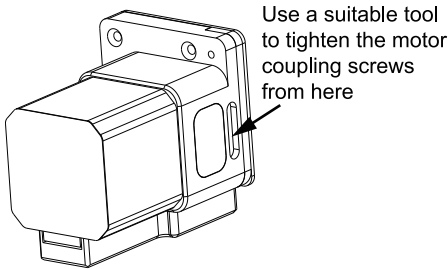

Fig. 9 Motor module
- 6) Use the matching tool (Allen key) to tighten the motor coupling screws as shown in Figure 9;